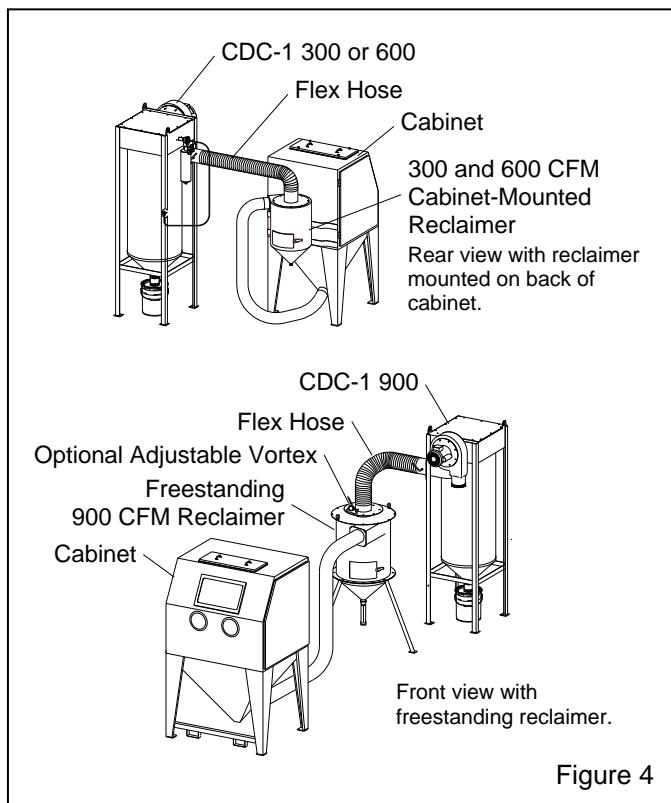
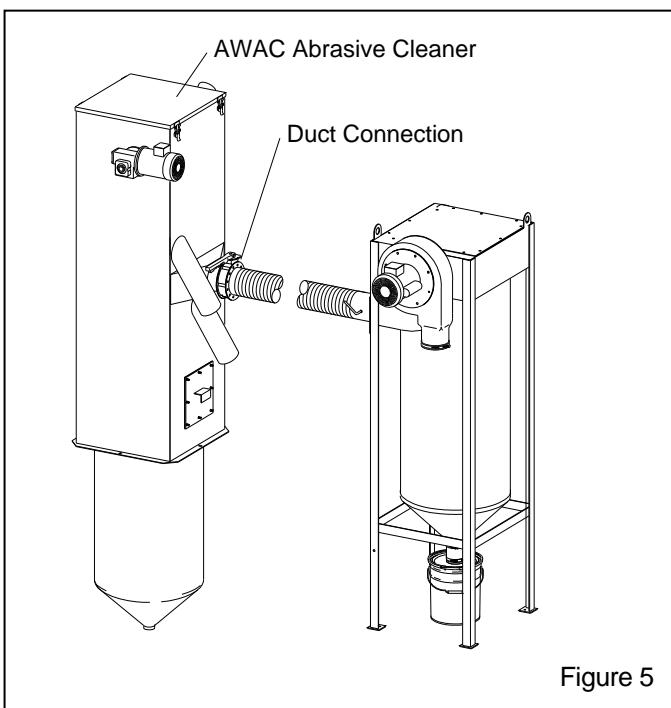

Figure 4
Figure 5
Figure 1 shows callouts of the dust collector components. Figure 4 shows typical arrangements when collector is used to ventilate a blast cabinet, and Figure 5 shows the connection to an abrasive cleaner.
2.1.2 Refer to Figure 4 and place the collector so the inlet flex hose has as few bends as possible. Determine the best location and position all units before making the final assembly. Doing so will make sure there are no placement issues during maintenance.
2.4.1 Figure 4 shows typical arrangements and callouts when the dust collector is connected to a blast cabinet reclamer. **NOTE:** The collector may also connect to a 900 cfm reclamer mounted on a blast machine used with a small pneumatic recovery system, as shown in the M-Section® Sweep-In Recovery Owner's Manual, stock no. 23647.
2.4.2 Figure 5 is a typical arrangement with a CDC-1 600 connected to an AWAC abrasive cleaner used with mechanical recovery systems. The dust collector provides air movement for the AWAC air wash to remove fines (abrasive worn too fine for blasting purposes) from recyclable abrasive.
2.6.1 Refer to Figure 4 when connecting flex hose to a reclaimer or Figure 5 and when connecting to an AWAC abrasive cleaner, and connect the hose between the reclaimer or AWAC outlet and dust collector inlet pipe.